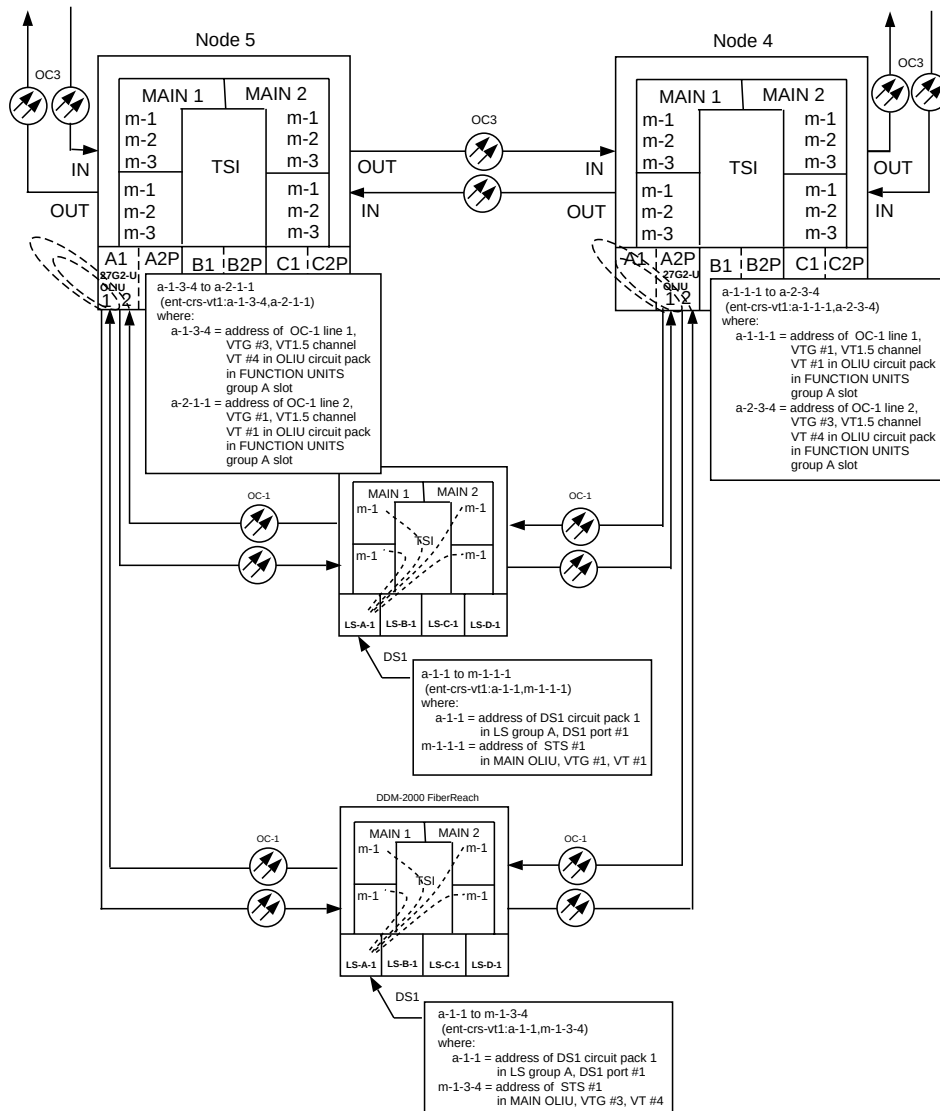

Figure 6. Example of Dual Homing Intra-Function Unit OC-3/OC-1 Cross-connections
In single homing configurations (Figure 6), the **27G-U/27G2-U OLIU** in **FUNCTION UNITS (FN) GROUP A, B, or C, slot 1** of the OC-3 shelf must be connected to the **MAIN-1 OLIU** in the FiberReach shelf. The **27G-U/27G2-U OLIU FUNCTION UNITS (FN) GROUP A, B, or C, slot 2(P)** of the OC-3 shelf must be connected to the **MAIN-2 OLIU** in the FiberReach shelf.